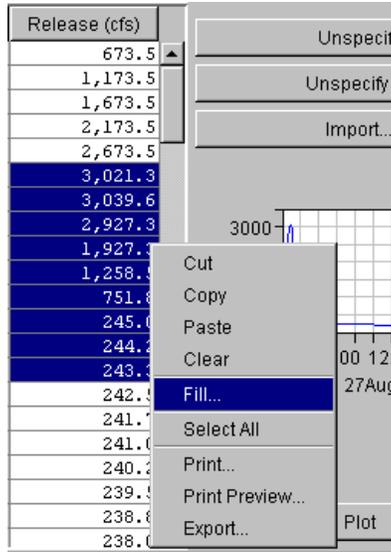
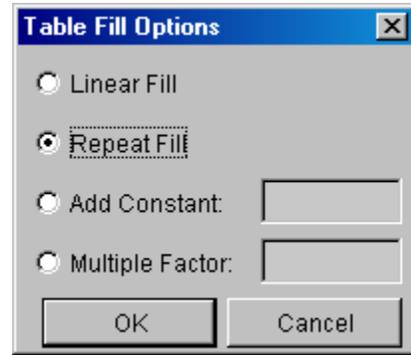
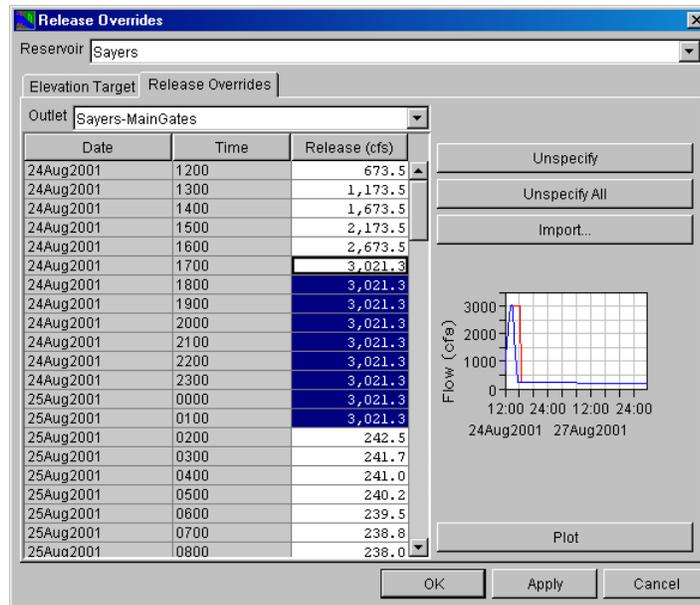

Figure 14.38 Release Overrides Editor Shortcut Menu: Fill Data Values
Figure 14.39 Table Fill Options Dialog Box
Figure 14.40 Release Overrides Editor Table: Revised Data Values using Repeat Fill Option
2. Right-click on the highlighted cells, and select **Fill** from the shortcut menu (Figure 14.38). The **Table Fill Options** dialog box will open (Figure 14.39)
3. Select the appropriate fill option in the **Table Fill Options** dialog box (Figure 14.39), then click **OK**.
The revised values will reflect the fill option you selected. In the example shown in Figure 14.39, the **Repeat Fill** option is selected. Therefore, as the table in Figure 14.40 illustrates, all of the highlighted cells equal the value of the first cell selected; also, the color of the revised values changes from black to blue and the mini-plot shows the revised values as a red line. The mini-plot can be viewed in full size when you double-click on it.